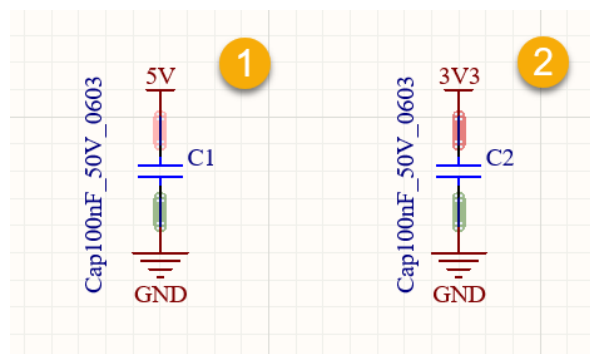

Figure 14. Selecting Capacitor symbol bodies
39. In the `Processor_Interface.SchDoc`, select capacitors C1 and C2 in order using **Shift+Select** as shown in Figure 14.